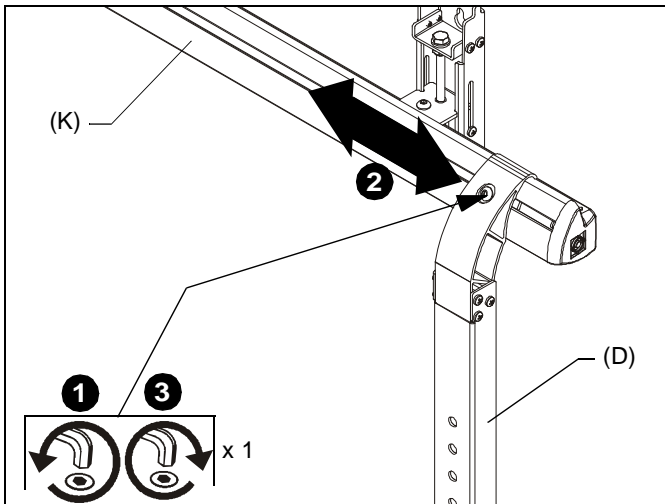

Figure 6
1. Loosen one button head cap screw at top of upright assembly (D). (See Figure 6)
2. Slide upright assembly left or right on wall assembly (K), as necessary. (See Figure 6)
3. Tighten button head cap screw to fasten upright assembly into place. (See Figure 6)